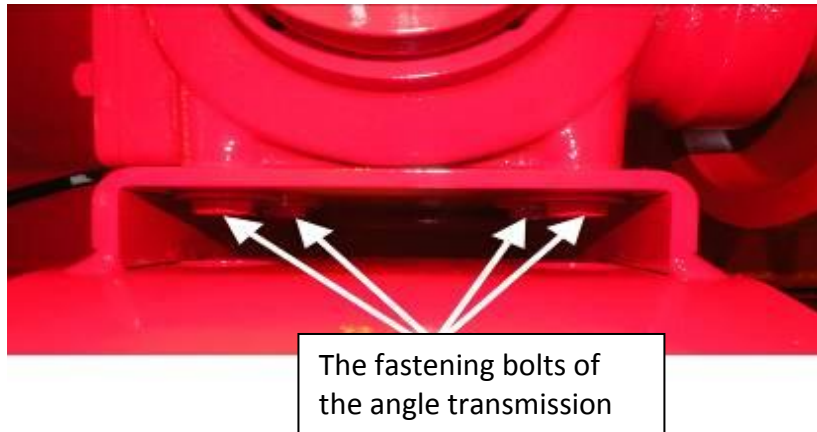

Figure 43.
1. Loosen the fastening bolts (4 pcs, in Figure 43).